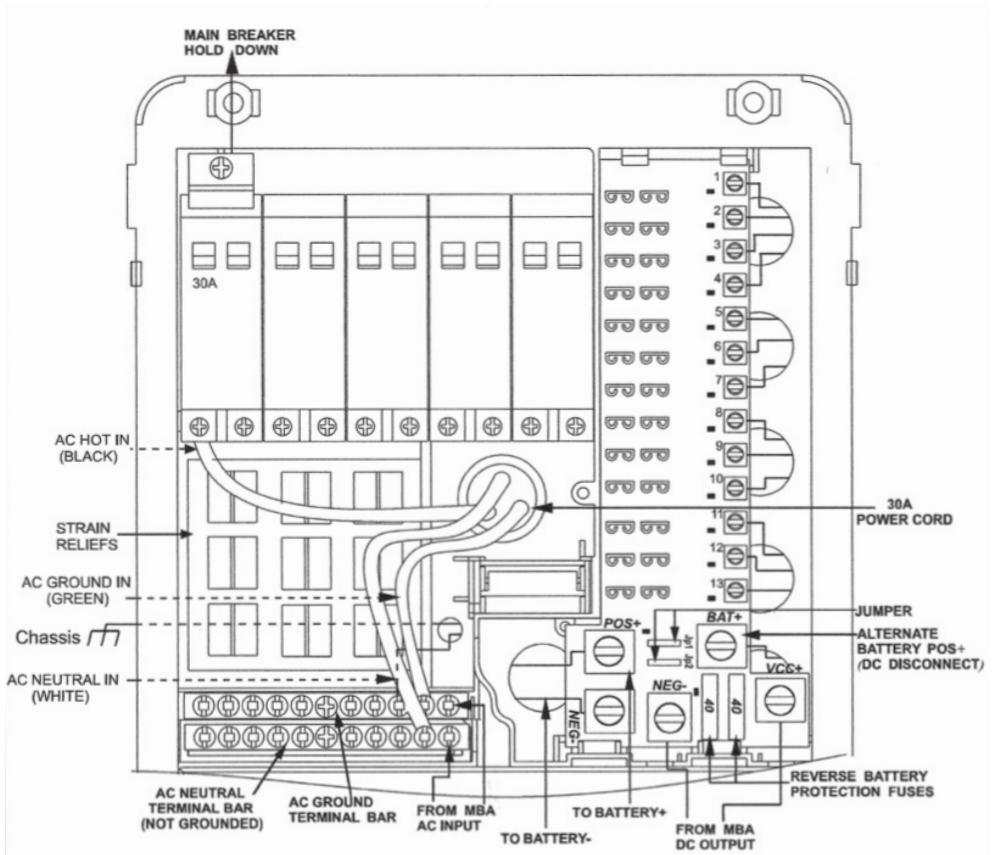

Figure 7
**** Make sure no AC power is coming into the RV from either the Shore Power cord or an on-board generator.** Determine the proper size breakers for the loads the WF-8500LiS Series will be powering. You can use either single or duplex breakers, or a combination of both. We recommend that all the breakers used be of the same brand. When using duplex style circuit breakers, a total of 10 breakers can be mounted in the WF-8500LiS Series, 1 Main breaker and 9 Branch breakers. Refer to the tables on pages 5 and 6 for a selection of approved breakers. The Main breaker should be 30 Amp and is to be installed in the left-most position. See the wiring diagram (Figure 7) on page 15. A hold down clip is provided to keep the breaker securely in place.